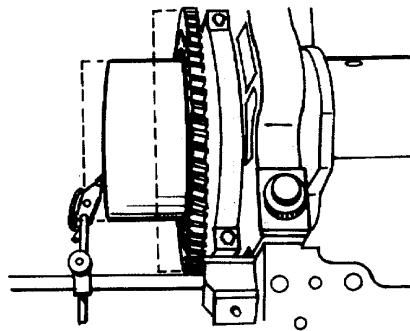

FIGURE 4-78. Measure Crankshaft End Play.
k. Measure the crankshaft end play using a dial indicator. (FIGURE 4-78)